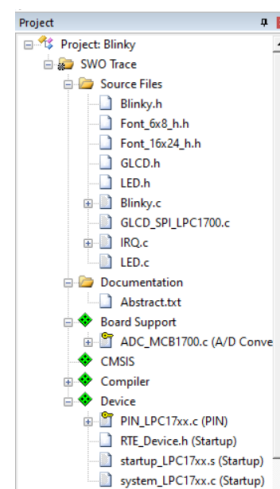

Fig. 11: Final Workspace
14. Your final workspace should now resemble Figure 11 shown above.